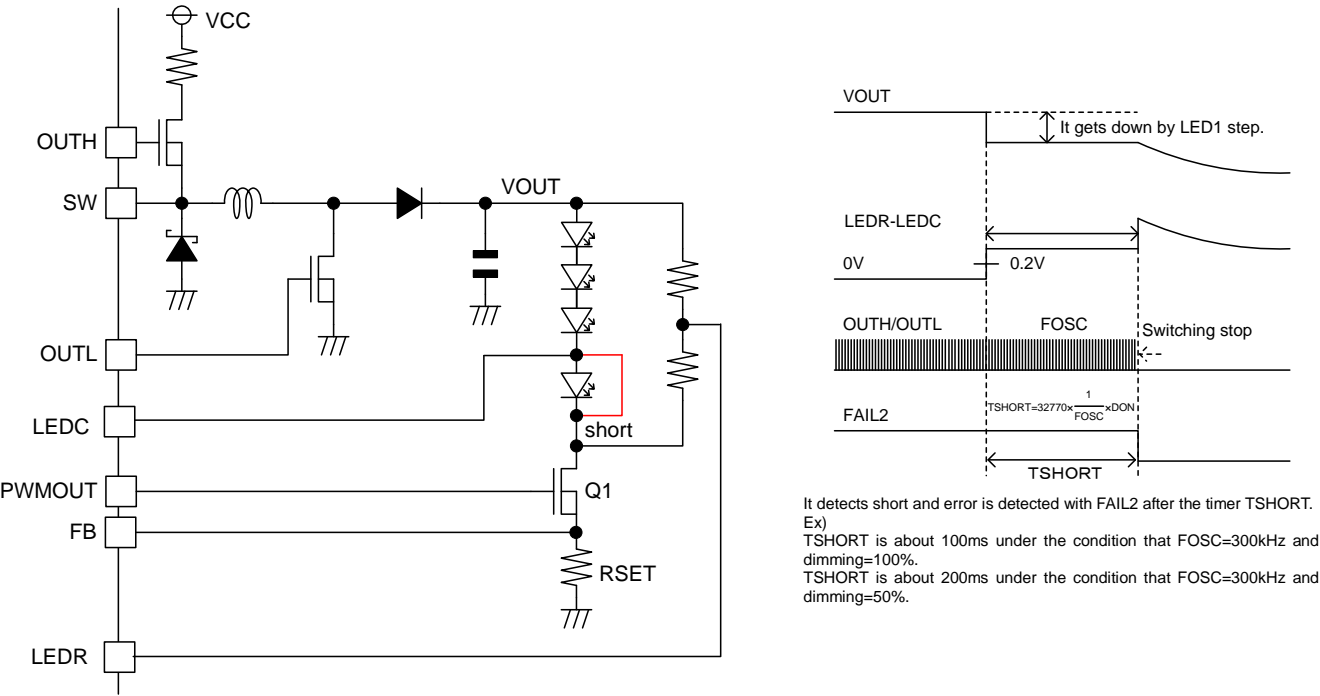

Figure 35
**(9) LED Short Detection(Following Figure 35 in P.20)**